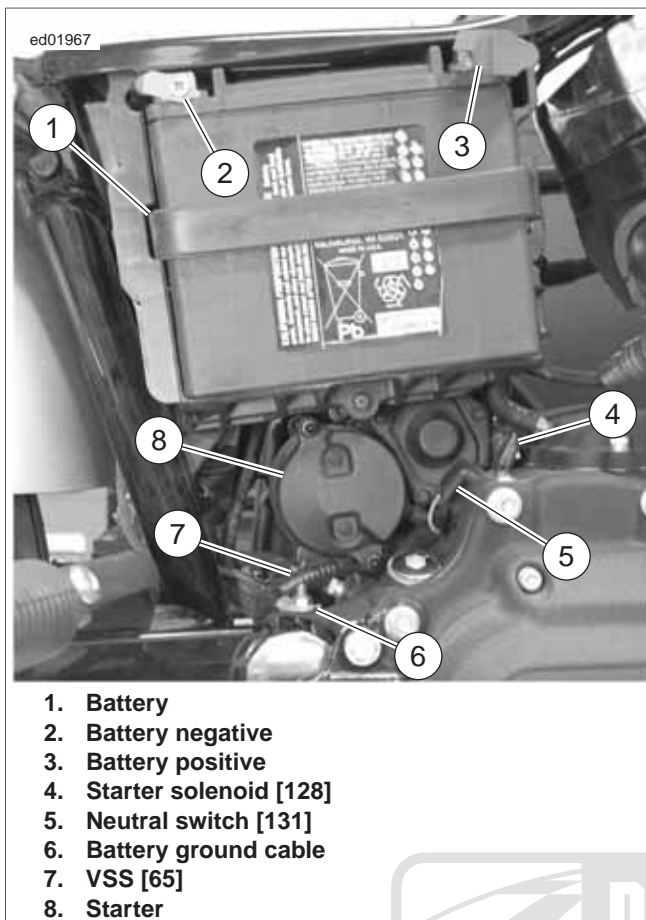

Figure 4-9. Under Right Side Cover
See Figure 4-9. The neutral indicator is controlled through the (TN) wire connected to the TSM/TSSM/HFSM and the neutral switch. When the transmission is in neutral, the neutral switch closes and illuminates the neutral indicator.